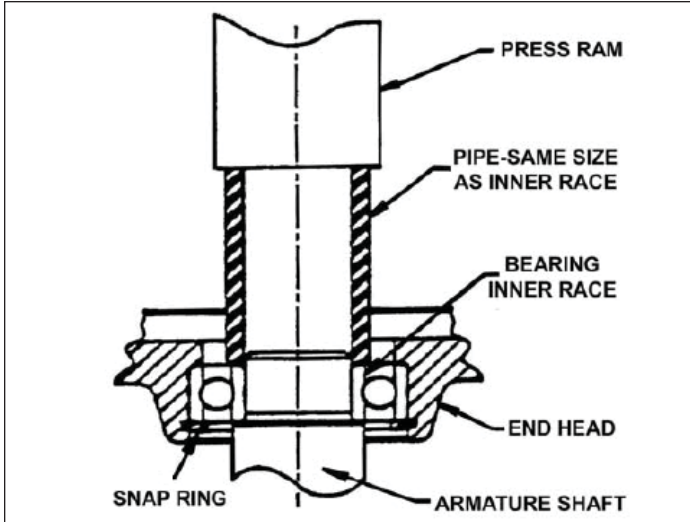

Figure 9-15. Press Bearing and End Cover onto Assembly
1. Always use a new bearing when reassembling a motor Press bearing into motor head. Press only against the outer race. See Figure 9-15. Install snap ring to retain bearing. Figure 10-16.
6. Press motor head and bearing onto armature, pressing only against inner race of the bearing. See Figure 9-15.